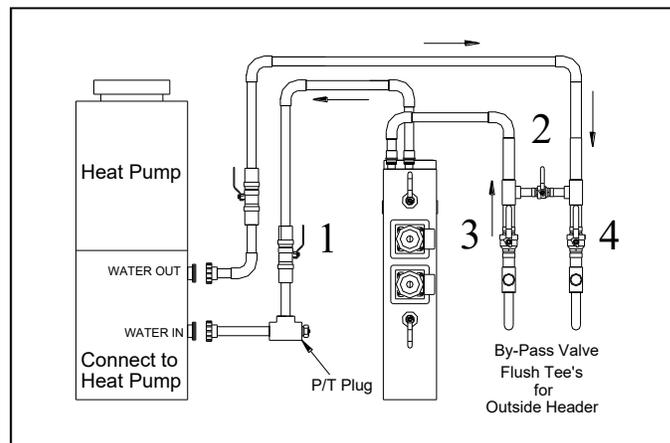

Fig. 4. Recommended Schematic For Use with Underground Headers; Flush Cart Required
Fig. 4 illustrates a recommended piping schematic for a system with underground headers.
1. Refer to **Fig. 4**, close valves 3 and 4.
3. After all air has been eliminated and full flow established, close valve no. 2 (**See Fig. 4**) to place the system back into full operation.